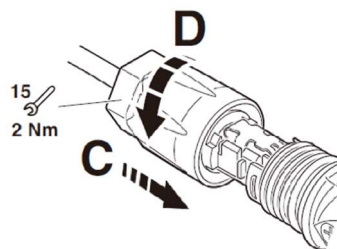

Figure 5-9
6. Push the insert into the sleeve (Figure 5-9, C).
7. Tighten the cable gland to 2 N.m (Figure 5-9, D). Use a suitable and calibrated torque wrench of size 15. Use an open-jaw wrench, size 16, to hold the connector in place.